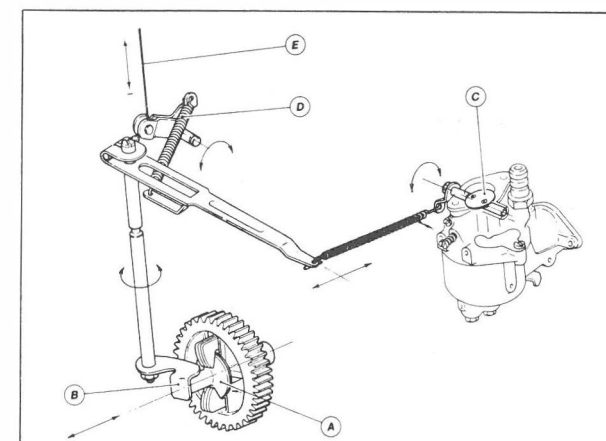

Fig. 30
- Mit Innenmessgerät zwei senkrecht zueinanderstehende Durchmesser (Abb. 30; a, b) der Kurbelwellenlagerbohrung, des Oldichtringsitzes und des Nockenwellenlagers auf drei verschiedenen Höhen abtasten.
Il est du type à masses centrifuges (Fig. 30). Les masses poussées par la force centrifuge déplacent axialement un poussoir (A) qui agit sur le levier (B) qui, au moyen d'un jeu de leviers, détermine la position du papillon (C) dans le carburateur. Le ressort (D) mis en tension par la commande accélérateur (E) contraste l'action de la force centrifuge.
Governor is of the centrifugal type, consisting of flyweights housed in the governor gear directly driven by the crankshaft (Fig. 30). Centrifugal force makes the weight move outwards pushing drive rod (A) sideways. Axial movement of drive rod (A) is transmitted by the lever (B) to the fuel throttle valve (C), through control linkages. Tension exerted by accelerator control (E) on governor spring (D) acts against the governor centrifugal force. Upon engine load variations at a fixed position of the accelerator, governor operates as follows: engine speed increases when load is taken off, centrifugal force pushes flyweights aside thus moving drive rod (A) outwards to reduce fuel feeding; engine settles to a slightly higher speed (droop). Speed drops when engine is loaded, reducing centrifugal force; the tension of the governor spring pushes the governor drive rod (A) inwards, thus increasing fuel feeding: engine speed slightly decreases and sets to a lower lever (governor droop).
Es handelt sich um einen Fliehkraftregler mit Zentrifugalmassen die sich in einem direkt von der Kurbelwelle angetriebenen Zahnrad befinden (Abb. 30).